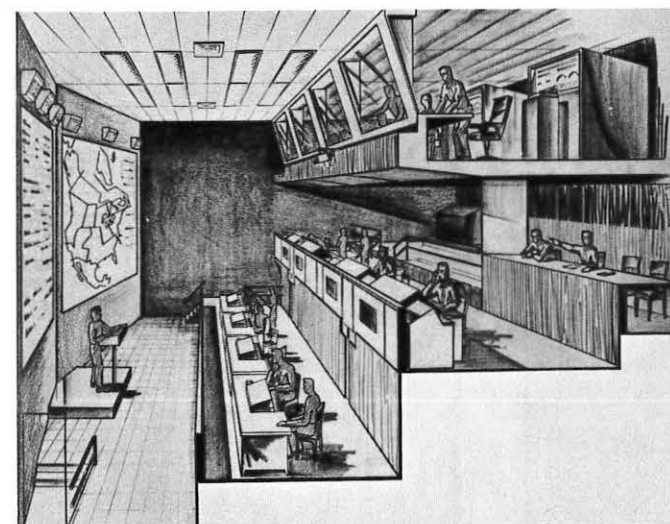

FIGURE 1: NORAD Combat Operations Center, Command Post
The Command Post (CP), where the battle staff sits, is arranged on three levels to give all persons a direct view of the 12-foot by 16-foot rear projection screen. A view of the CP showing the seating and the screen is given in Figure 1. Here, by the touch of a button, a seven-color display can be updated automatically or "on demand" as often as every 10 seconds.